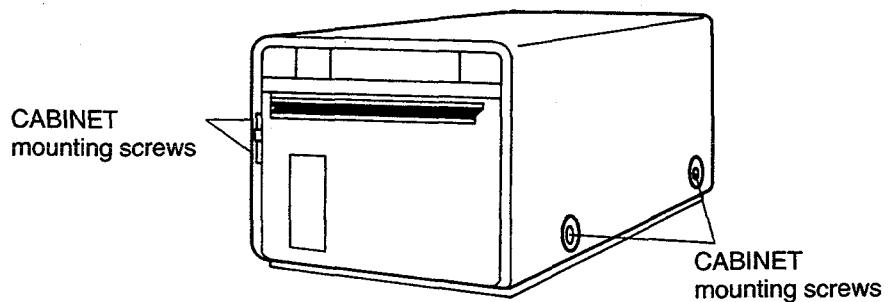

Fig.1-1
1. Remove the 4 screws securing the CABINET. (Fig.1-1)
1. Remove the CABINET. (Fig.1-1)
Removal of PCB-MAIN	<p>1. Remove the CABINET.(Fig.1-1) 2. Disconnect all the connectors to the PCB-MAIN. 3. Remove the 4 screws securing the PCB-MAIN. (Fig.1-6) 4. For re-assembly, reverse the procedure.</p>  <p>PCB-MAIN mounting screws</p>
Removal of PCB-POWER	<p>1. Remove the CABINET.(Fig.1-1) 2. Remove the 2 screws securing the POWER SWITCH BRACKET. (Fig.1-8) 3. Remove the POWER SWITCH BRACKET.(Fig.1-8) 4. Remove the REAR PANEL.(Fig.1-7) 5. Remove the PCB-POWER.(Fig.1-6) 6. Remove the TOP HOLDER.(Fig.1-9) 7. Remove the 1 screw securing the POWER UNIT, remove POWER UNIT.(Fig.1-9) 8. Remove the 5 screws securing the HEAT SINK of D951,Q952,IC971, IC901 on POWER UNIT , remove the HEAT SINK.(Fig.1-10) 9. Disconnect all the connectors coonnected to PCB-POWER. 10. Remove the 4 screws securing the PCB-POWER. (Fig.1-10) 11. Remove the PCB-POWER from POWER UNIT. 12. For re-assembly, reveres the procedure.</p>  <p>REAR PANEL mounting screws</p> <p>REAR PANEL mounting screws</p>
1. Remove the CABINET.(Fig.1-1)
1. Remove the CABINT. (Fig.1-1)